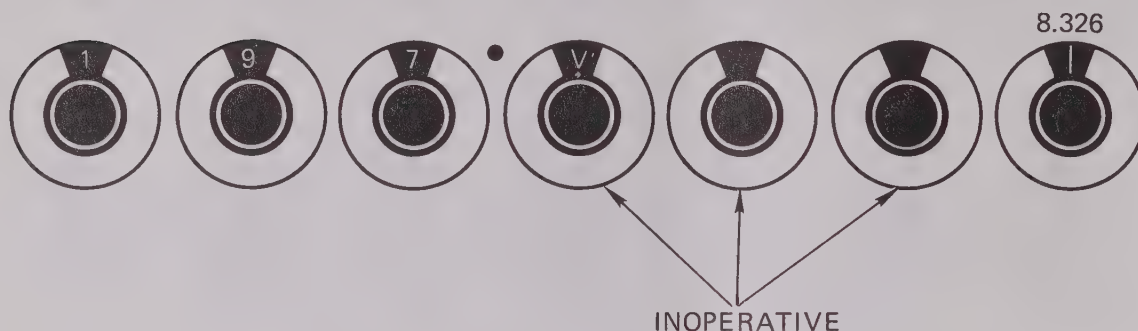

Figure 4-3b. Frequency Controls Setup
- b. For wideband deviation, the decades are set up as in Figure 4-3b. The 0-1KHz control is set to 8.326 to compensate for the fact that the 100KHz, 10KHz and 1KHz controls are inoperative.